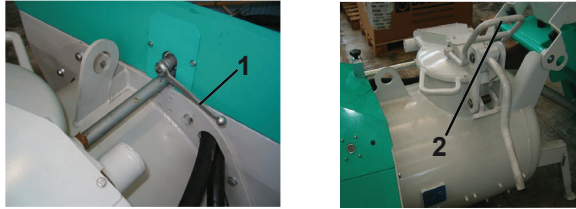

FIG.2
### 5. GENERAL SAFETY INSTRUCTIONS (fig.2)
The hazardous parts of the IMER screed pump are protected by suitable safety devices, which must remain fitted and kept in perfect condition, such as the Diesel engine cooling fan guard and the grill on the tank collar, that prevents contact with the mixer located inside the tank. This is interlocked with a safety ball valve (ref.1,fig.2): the mixer automatically stops when when grill is opened.
Adjust the ball valve (ref.2) as indicated in figure 9a, position 2c (between half-way and 3/4 on delivery manifold side). Make sure the **emergency button is not activated (ref.8,fig.9b)**, releasing it if necessary, and that the **grill safety ball valve is completely closed (ref.1,fig.2)**.